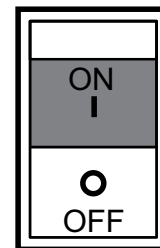

Figure 21. Main Circuit Breaker (ON)
10. Place main circuit breaker (Figure 21) in the **ON** position.